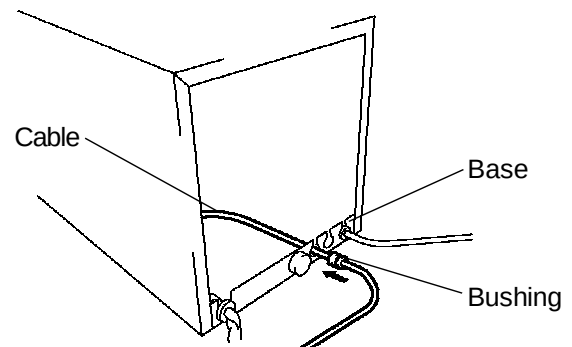

Fig. 9
- 3) Remove one blind bushing from the unit base and attach the cable to the unit base using the bushing on the Remote Controller. See Fig. 9.